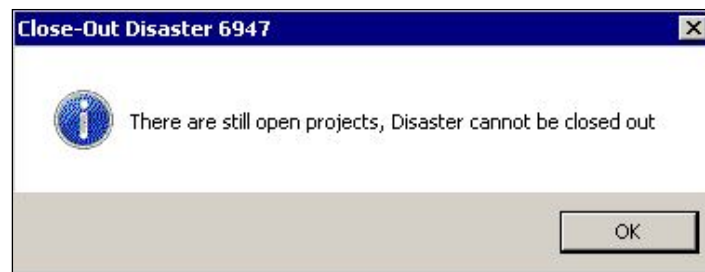

Figure 13-5: Projects Still Open Message
4. If some projects are still open, the system displays the Projects Still Open message (Figure 13-5). All project applications, irrespective of status or regardless if submitted for eligibility review, are considered open unless closed out.